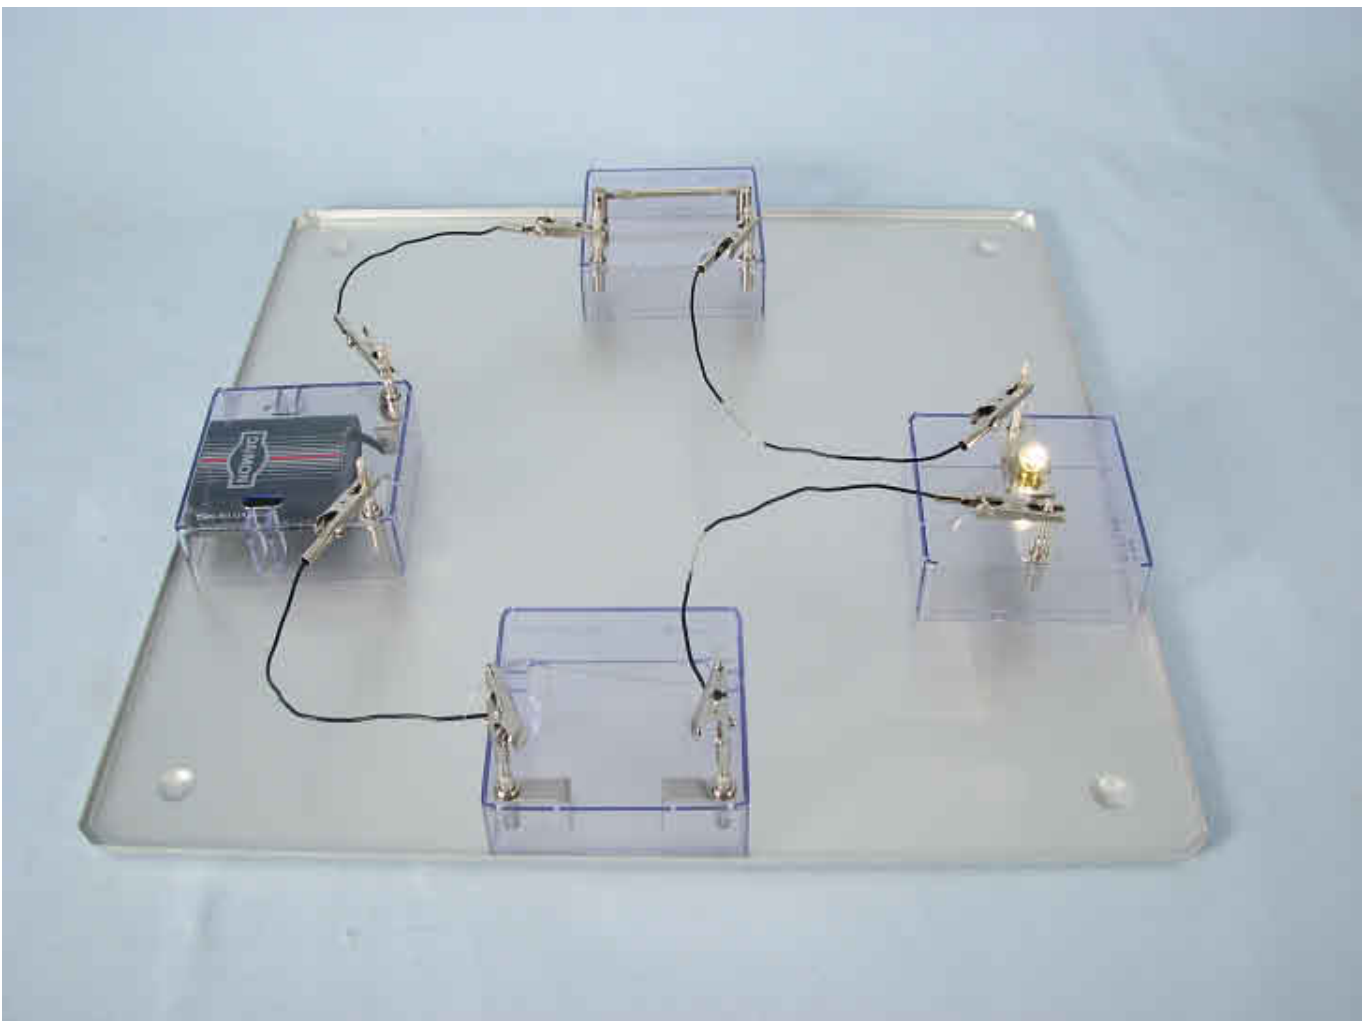

Fig. 3
- Now close the switch and again briefly bring the bare parts of the two prepared connecting wires together (Fig. 3).